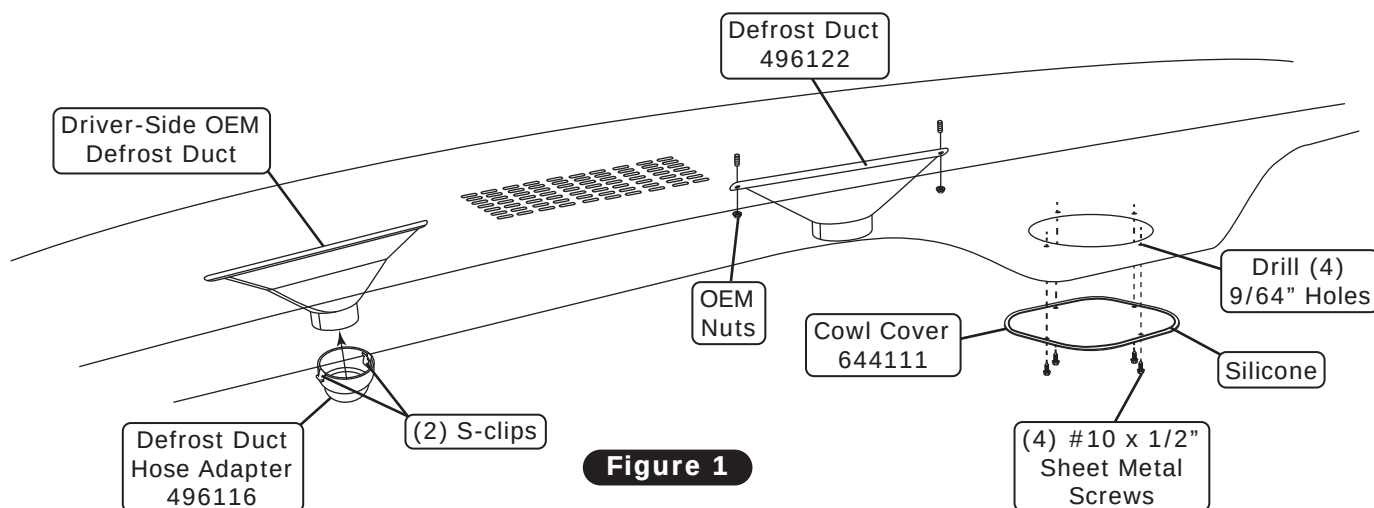

Figure 1
7. Secure the cowl cover to the fresh air hole using (4) #10 x 1/2 sheet metal screws as shown in Figure 1, below.